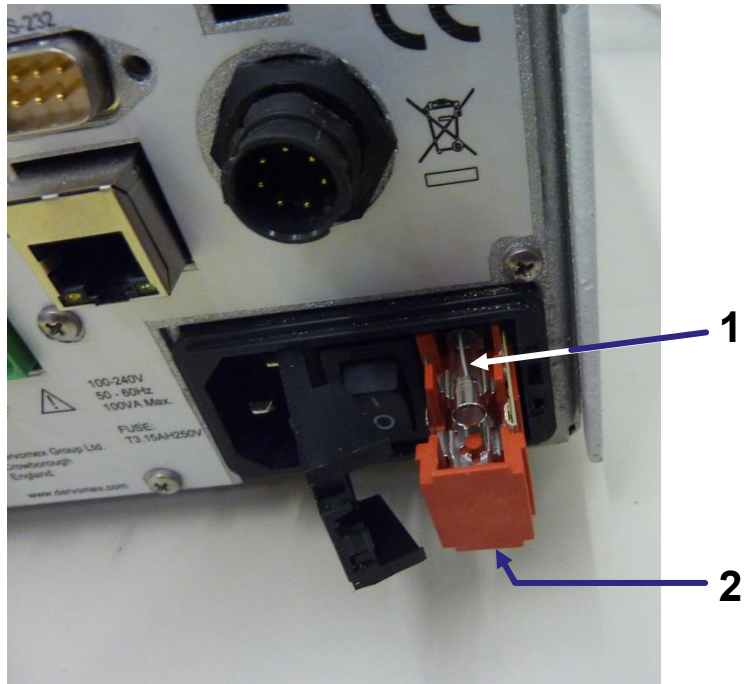

Figure 10-3: Pull out the red fuse holder
2. Pull the red fuse holder out of the panel (Figure 10-3).
Both live and neutral lines have fuse protection. The neutral fuse is shown (1 in Figure 10-3); the live fuse is located in the underside of the red fuse holder (2 in Figure 10-3).
Make sure you fit the fuse in the correct position in the fuse holder as shown in Figure 10-3.